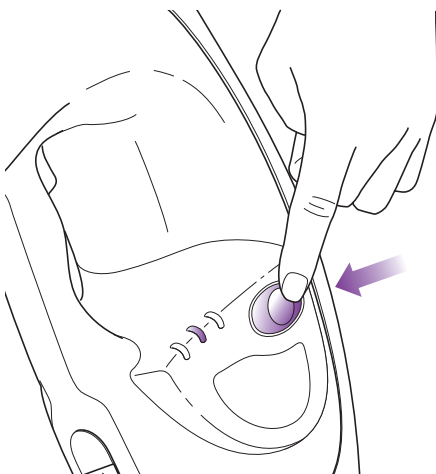

fig. 9
- 3 Press the **ON/STEAM SETTING** button once for **DUST** setting (**DUST** lighted setting indicator will flash and turn solid blue when it is ready to use). **DUST** setting is a light steam for a quick dusting and best dry time. (fig. 9)